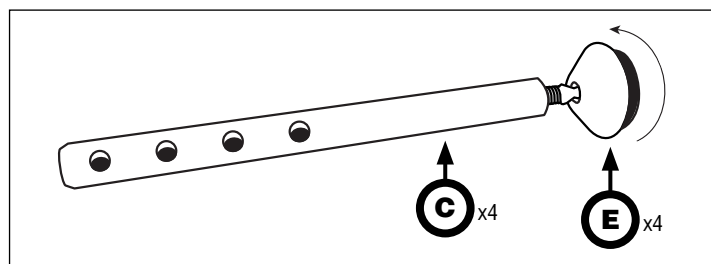

Figure 2
- 3** Screw a self-leveling floor glide (**E**) clockwise into the end of each telescopic leg tube (**C**). See *Figure 2*.